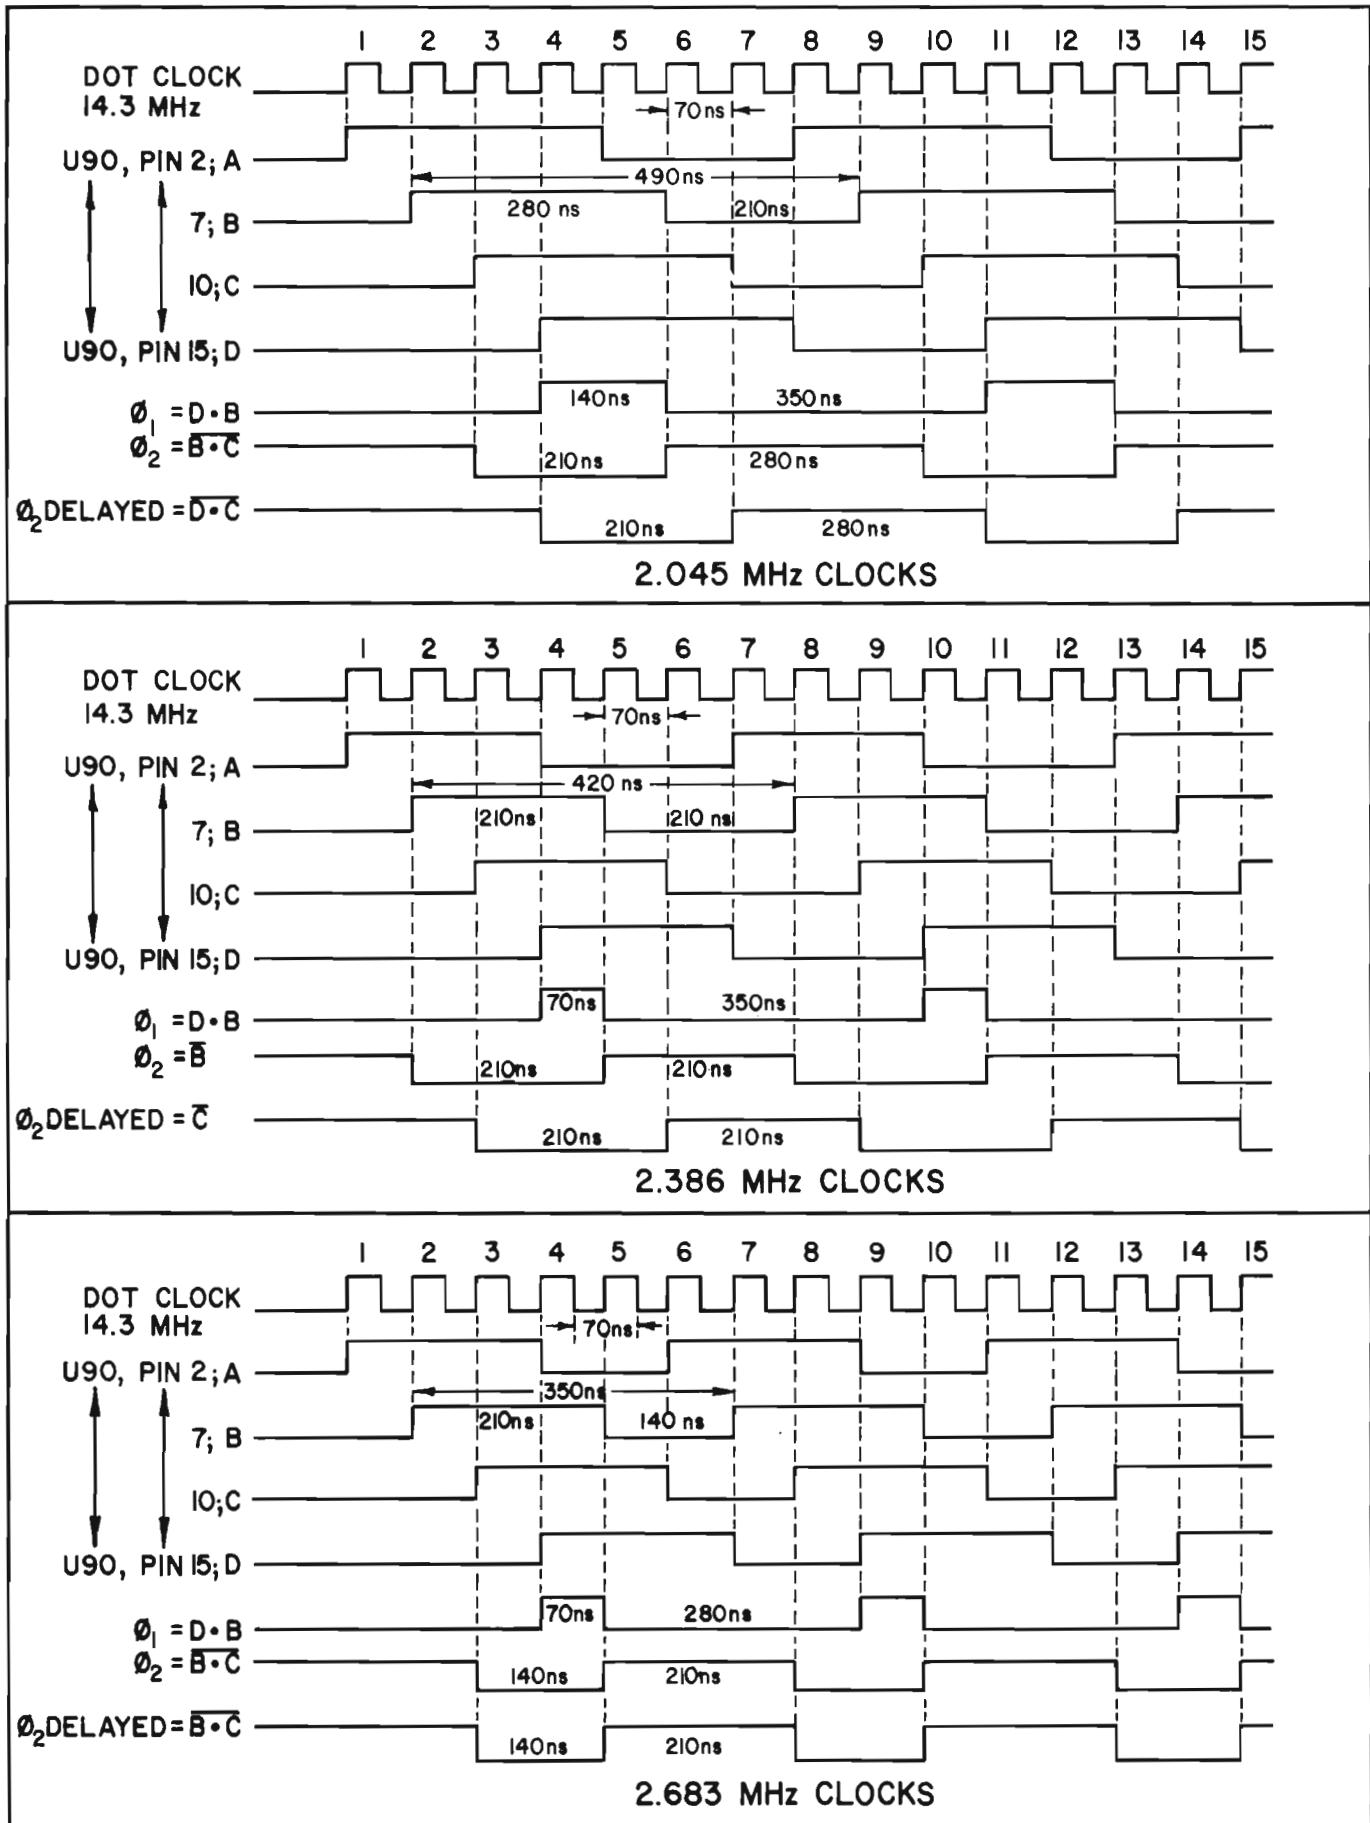

Figure 8-1. CLOCK GENERATOR TIMING
Sol is normally configured with the D-to-E jumper installed to meet the clock requirements of the 8080A CPU. With this jumper installed, the outputs of the third and fourth U90 stages are applied to pins 9 and 10 of U91. Assuming U90 is reset to zero, pin 8 of U91 is high, and on the first clock pulse the counter contents change to 1000. (Refer to 2.045 MHz Clocks portion of Figure 8-1 on Page VIII-11.) Pin 8 of U91 cannot change until the fourth state (1111), at which time it goes to zero. On the fifth clock pulse the counter changes to 0111. Again, pin 8 of U91 cannot change from zero until one of its inputs changes. As shown in Figure 8-1, the third U90 stage (C) changes on the seventh clock. The counter now stands at 0001, and on the eighth clock the counter flips to 1000 and the count cycle repeats. The pattern is thus 1000, 1100, 1110, 1111, 0111, 0011, 0001. U90 consequently goes through seven states. We have a 3.5-stage counter that divides DOT CLOCK by seven to supply a 2.045 MHz output.
With no jumper installed, pin 10 of U91 is pulled high by R105, and U91 operates as a simple inverter for feeding back the output of the third U90 stage. In effect we have a three-stage counter that operates in a similar manner to that described in the preceding paragraph. It goes through six states (100, 110, 111, 011, 001, 000) to divide DOT CLOCK by six which produces a 2.386 MHz output. The timing for this option is also shown in Figure 8-1.
Let's now put the D-to-C jumper in. The feedback in this case is the NAND combination of the outputs from the second (B) and third (C) U90 stages. This gives us a 2.5-stage counter that divides DOT CLOCK by five. As can be determined from the 2.863 MHz portion of Figure 8-1, the counter has five states with this option, and the count pattern is: 100, 110, 111, 011, 001.
Ø1 on pin 6 of NAND gate U91 is low only when its two inputs are high, and this happens only when there is a 1 in the second and fourth stages of U90. This occurs during the time between the fourth and sixth fundamental clocks for 2.04 MHz operation--the fourth and fifth clocks for 2.38 MHz and 2.86 MHz. Keeping in mind that the fundamental clock period is 70 nsec, it is readily seen that the low frequency pulse train on pin 6 of U91 has a pulse width of 140 nsec and the two higher frequency pulse trains have a pulse width of 70 nsec. (Refer to Figure 8-1 on Page VIII-11.)
The A-to-B jumper is installed when the 8080A or 8080A-1 CPU is used in the Sol. Note that the output ( $\phi_2$ ) on pin 11 of NAND gate U91 is low only when the output on pin 3 of NOR gate U91 is high. (This section in U91 is actually a two-input NAND gate which is functionally the same as a two-input NOR gate.) Pin 3 of U91, with the A-to-B jumper in, is high when either the second (B) or third (C) U90 stage is at zero. As shown in Figure 8-1, this occurs between the sixth and tenth DOT CLOCKS, or 280 nsec ( $4 \times 70$  nsec), for 2.04 MHz operation. For 2.863 MHz, it occurs between the fifth and eighth DOT CLOCKS for 210 nsec. The section of NAND gate U91 with its output on pin 11 inverts the output on pin 3 of U91 and introduces a slight delay to insure there is no overlap between  $\phi_1$  and  $\phi_2$ .